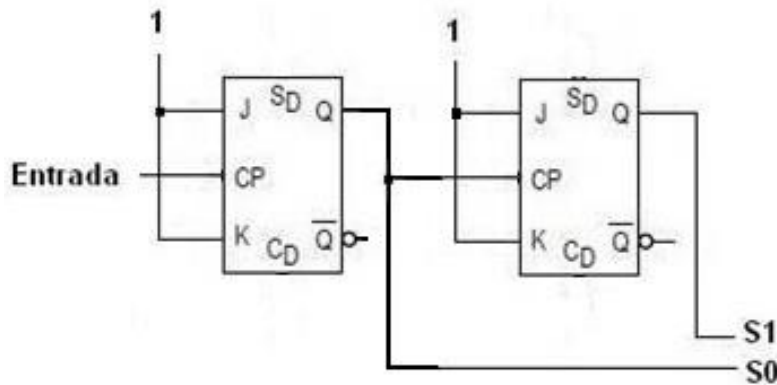

Figure 3
b) Figure 3 shows a 2-bits downward asynchronous counter composed of two JK flip-flops. Implement this circuit in Logisim and use a Hex Digit Displays to see the count.